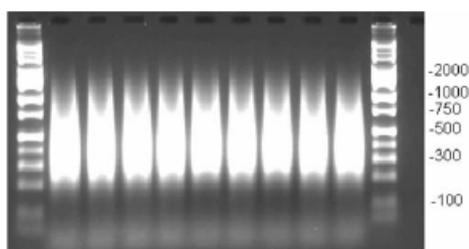

Figure 1. Example of PCR products run on 2% TBE agarose gel at 120 V for 1 h. Average product distribution is between ~200 to 1,100 bp.
33. Verify that the PCR product distribution is between ~200 bp to 1,100 bp (example of gel below, Figure 1).